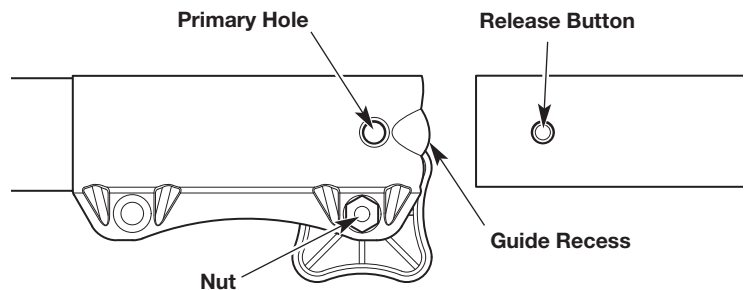

Fig. 6
4. Align the release button with the guide recess (Fig. 6).
5. Push the attachment straight into the coupler until the release button snaps firmly into the primary hole (Fig. 6).
NOTE: Do not tighten the nut (Fig. 6).
3. Press and hold the release button (Fig. 6).